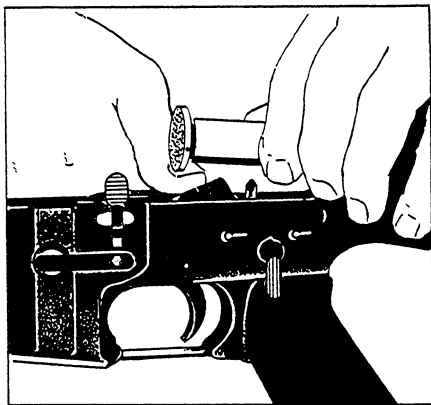

Figure 3-19.—Removing the buffer assembly and action spring.
6. Push in on the buffer assembly, using the index finger of the left hand. With the nose of a cartridge or some similar object, push down on the buffer retainer (fig. 3-19, view A). To remove the buffer assembly, press the hammer downward past the cocked position. After
the body of the buffer assembly has cleared the hammer, you can withdraw the action spring from the lower receiver (fig. 3-19, view B).